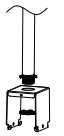

Figure 2
- Step1. Mount the bracket on 3/4"NPT; (Figure 2)